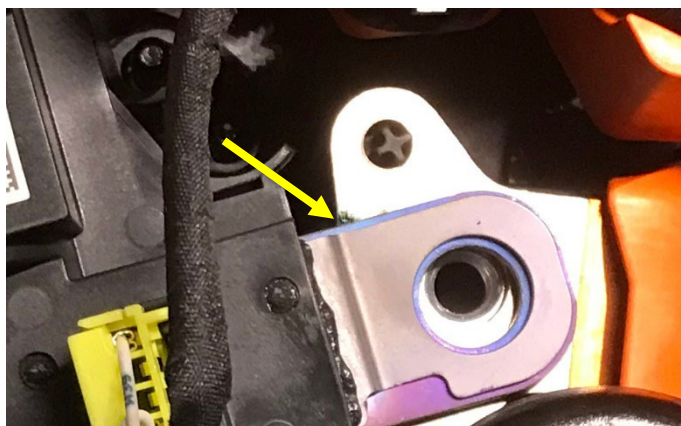

Figure 5 — Discoloration, melting, and arcing burn at negative DC link busbar joint
6. Closely inspect the contactors and DC link busbar joints where the bolts are missing for discoloration (Figure 5), melting (Figure 5), or burn marks evident of arcing (Figures 5 and 6).